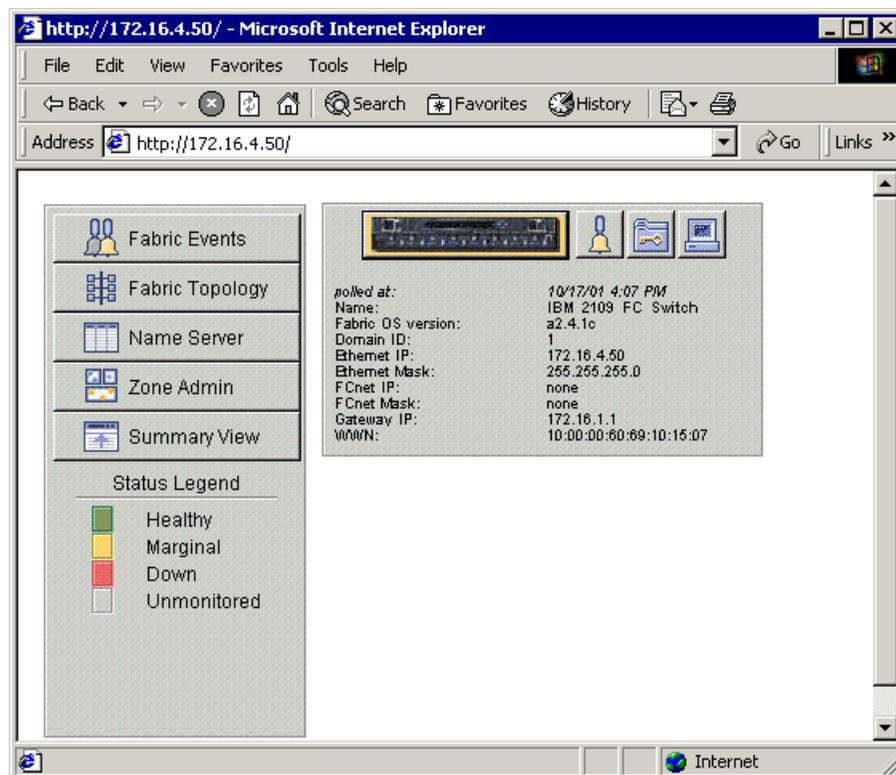

Figure 4-4 Switch main window
1. Open your Web browser and enter the IP address of the switch, which we set in 4.1, “Assigning an IP address to a Fibre Channel switch” on page 29. You will then see the main switch view. The window is shown in Figure 4-4:
From the main window, shown in Figure 4-4, click the **Name Server** button. This will list the Fibre Channel devices connected to the switch, as shown in Figure 4-7:
10. The new firmware is now in effect. You can confirm this by checking the Fabric OS version on the main switch window (see Figure 4-4 on page 33).
1. At the switch main window (Figure 4-4 on page 33), select **Zone Admin**.